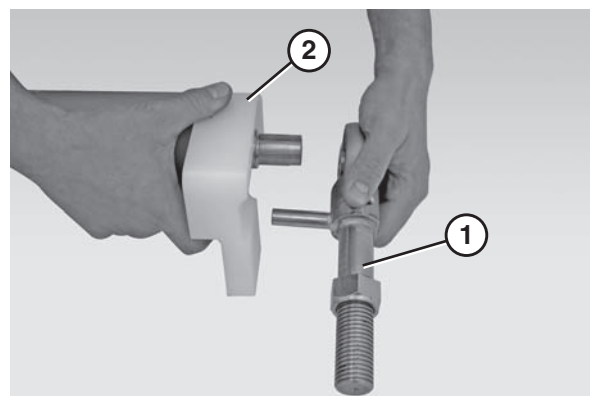

Figure 68
5. Remove the bearing shafts (Figure 68, item 1) and both pinch guards (Figure 68, item 2).